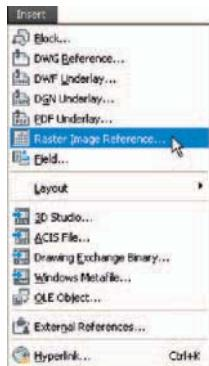
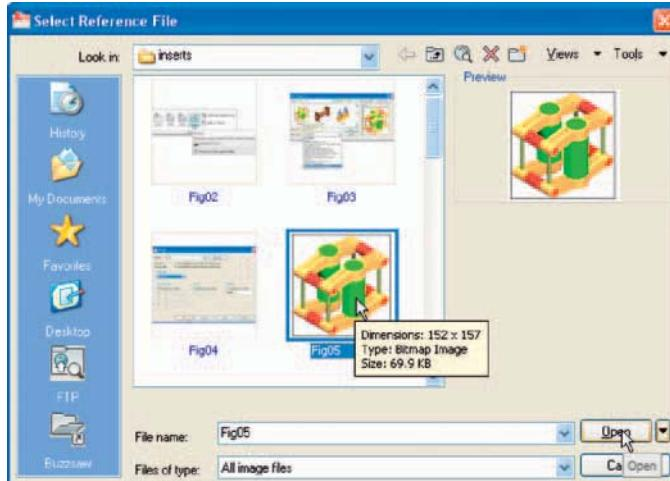

Fig. 10.8 Selecting Raster Image Reference... from the Insert drop-down menu
Fig. 10.9 The Select Reference File dialog
- Click Raster Image Reference... from the Insert drop-down menu (Fig. 10.8). The Select Reference File dialog appears (Fig. 10.9). Click the file name of the image to be inserted, in this example Fig05 (a bitmap *.bmp). A preview of the bitmap appears in the Preview area of the dialog.*